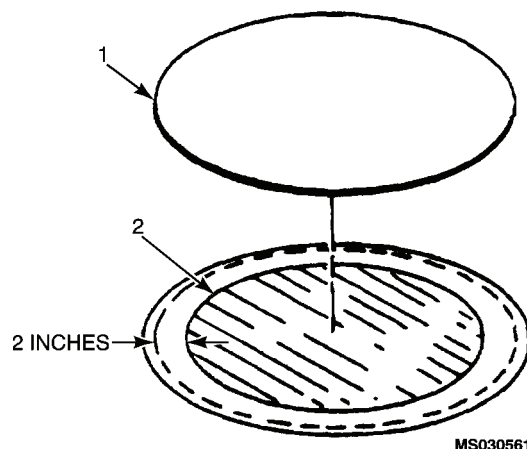

Figure 2-28. Fabric Cutting, Overlap Damaged Area.
(e) Cut fabric reinforcing patch, (1, figure 2-28) from nylon fabric (item 7, table 2-11) large enough to overlap damaged area (2), 2 inches in all directions.
(e) Cut fabric reinforcing patch (1, figure 2-28) from nylon fabric (item 7, table 2-11) large enough to overlap damaged area (1) 2 inches in all directions.